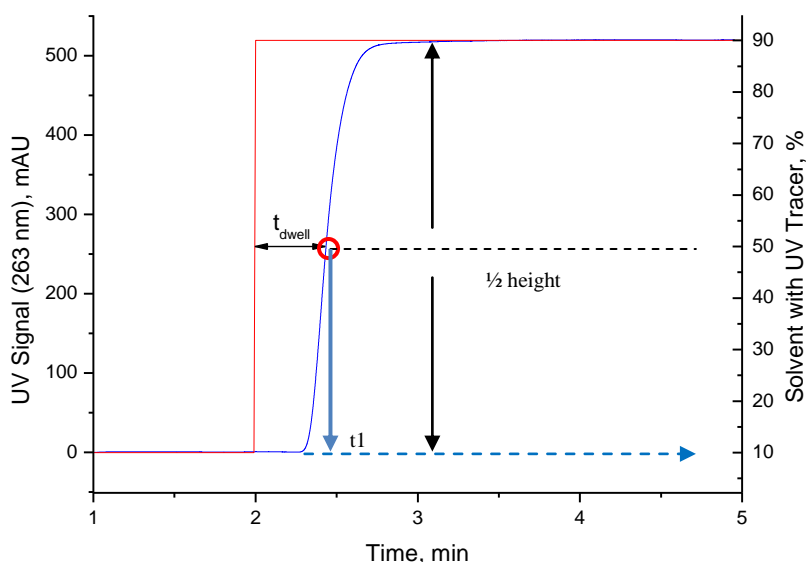

figure 2 - Example of dwell volume measurement by step boundary using 1% acetone as UV tracer
- a. Determine the actual elution time of acetone, **t₁**, at half of UV-signal height (blue curve in figure 2).
- b. Calculate a dwell time, **t-dwell**, as a difference between the programmed (red curve in figure 2) and **t₁**. **t-dwell = t₁ – 2**